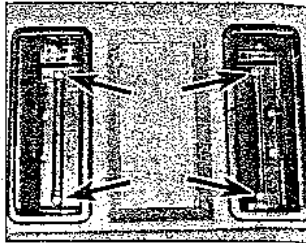

Fig. 13.66 Remove the ashtray holder retaining screws (arrowed) (Sec 9B)
- 4 Unclip and withdraw the ashtrays from their holders, then unscrew and remove the four self-tapping screws to release the holders (Fig. 13.66).